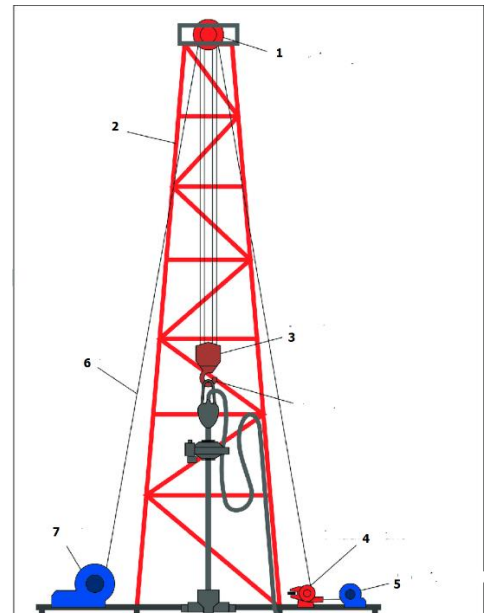

Fig: 1
16. Identify the components present in the Fig 1 and mention to which system these components are belongs to? Then elaborate the importance of each and every component with their function.